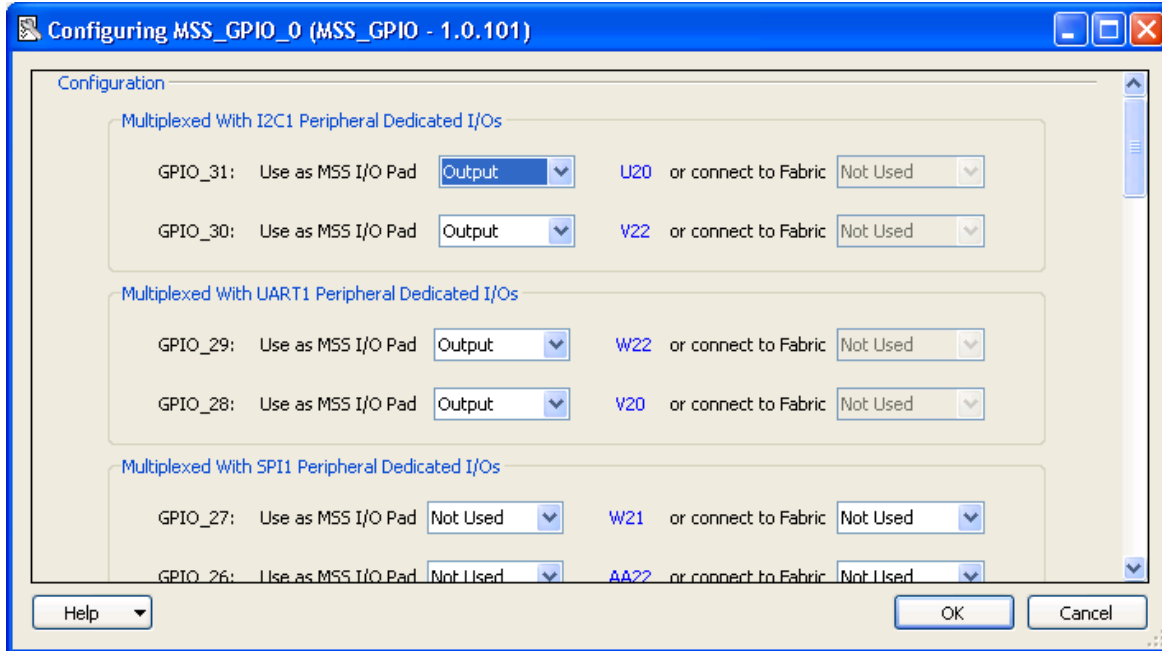

Figure 18 · Configure MSS_GPIO_0
1. Double-click the **GPIO block** in the **MSS component**, configure as shown in Figure 18 , and click **OK**.